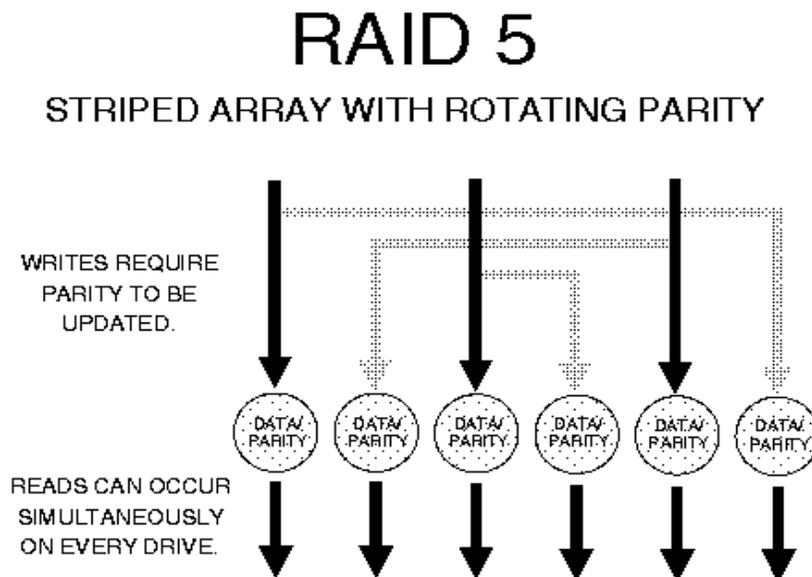

Figure 47. Striped Array with Rotating Parity
**RAID-5**, sometimes called a Rotating Parity Array, avoids the write bottleneck caused by the single dedicated parity drive of RAID-4. Like RAID-4, large stripes are used so that multiple I/O operations can be overlapped. However, each drive takes turns storing parity information for a different series of stripes. Since there is no dedicated parity drive, all drives contain data and read operations can be overlapped on every drive in the array. Write operations will typically access one data drive and one parity drive. Since different records store their parity on different drives, write operations can usually be overlapped, Figure 47.